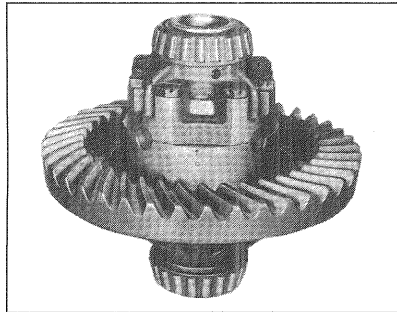

Fig. 6
10. Tighten case bolts to the torque specified by the vehicle/axle manufacturer. Check to be certain of a tight fit between the two case halves at all points and between the trunnion mounts in the case and the spider trunnions (Fig. 6).